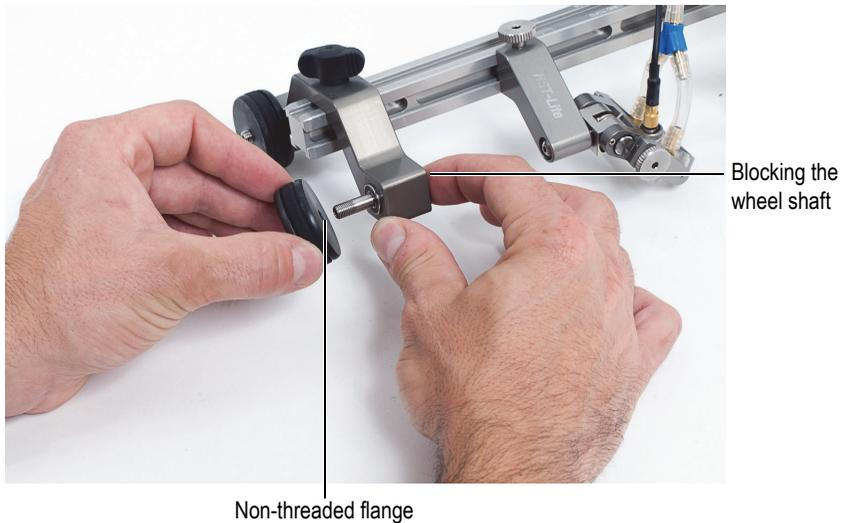

Figure 1-20 Installing a replacement wheel
2. Unscrew the wheel manually, and then remove the wheel (see Figure 1-20 on page 23).